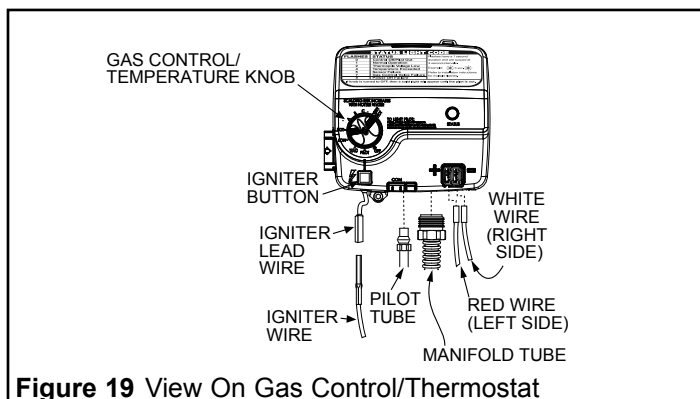
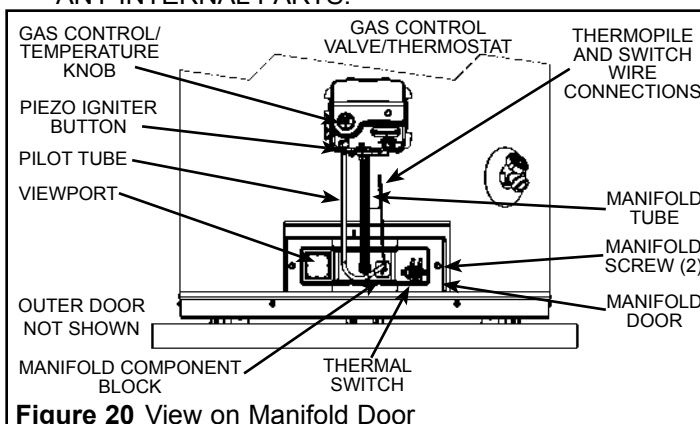

Figure 19 View On Gas Control/Thermostat
Figure 20 View on Manifold Door
4. Disconnect the igniter wire from the igniter lead wire. Use needle nose pliers to disconnect the red (+) and white (-) thermopile wires. Disconnect the pilot tube (7/16" wrench) and manifold tube (3/4" wrench) at the gas control valve/thermostat (see Figure 19).
2. Inspect the viewport for damage and replace as required (see Figure 20).
6. Reconnect the manifold tube (3/4" wrench) and pilot tube (7/16" wrench) to the gas control valve/thermostat (see Figure 19). Do not cross-thread or apply any thread sealant to the fittings.
7. Connect the white (-) thermopile wire to the gas control valve/thermostat, then connect the red thermal switch wires to the thermal switch on the manifold door. (see Figure 19).
8. Reconnect the igniter wire (see Figure 19).
5. Disconnect the following from the gas control valve/thermostat: pilot tube (7/16" wrench), igniter wire (from the igniter lead wire), and manifold tube (3/4" wrench) (see Figure 19).
6. Use needle nose pliers to disconnect the white (-) thermopile wire from the gas control valve/thermostat (see Figure 19). Next, disconnect both red thermal switch wires from the thermal switch on the manifold door (see Figure 20).
8. Remove the screws (1/4" nut driver) securing the manifold/burner assembly to the combustion chamber (see Figure 20).